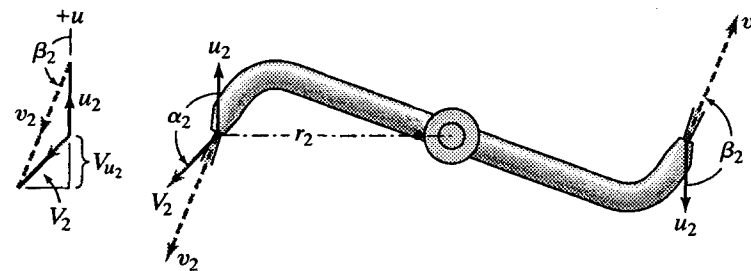

Figure 6.14
6.14.2 A lawn sprinkler like that of Fig. 6.14 with  $\beta_2 = 156^\circ$  has a total jet area of 0.000 86 ft2 and a radius of 16 inches. Compute the discharge rate, the torque exerted by the water, and the power developed, when  $h = 120 \text{ ft}$  and the sprinkler is prevented from rotating.